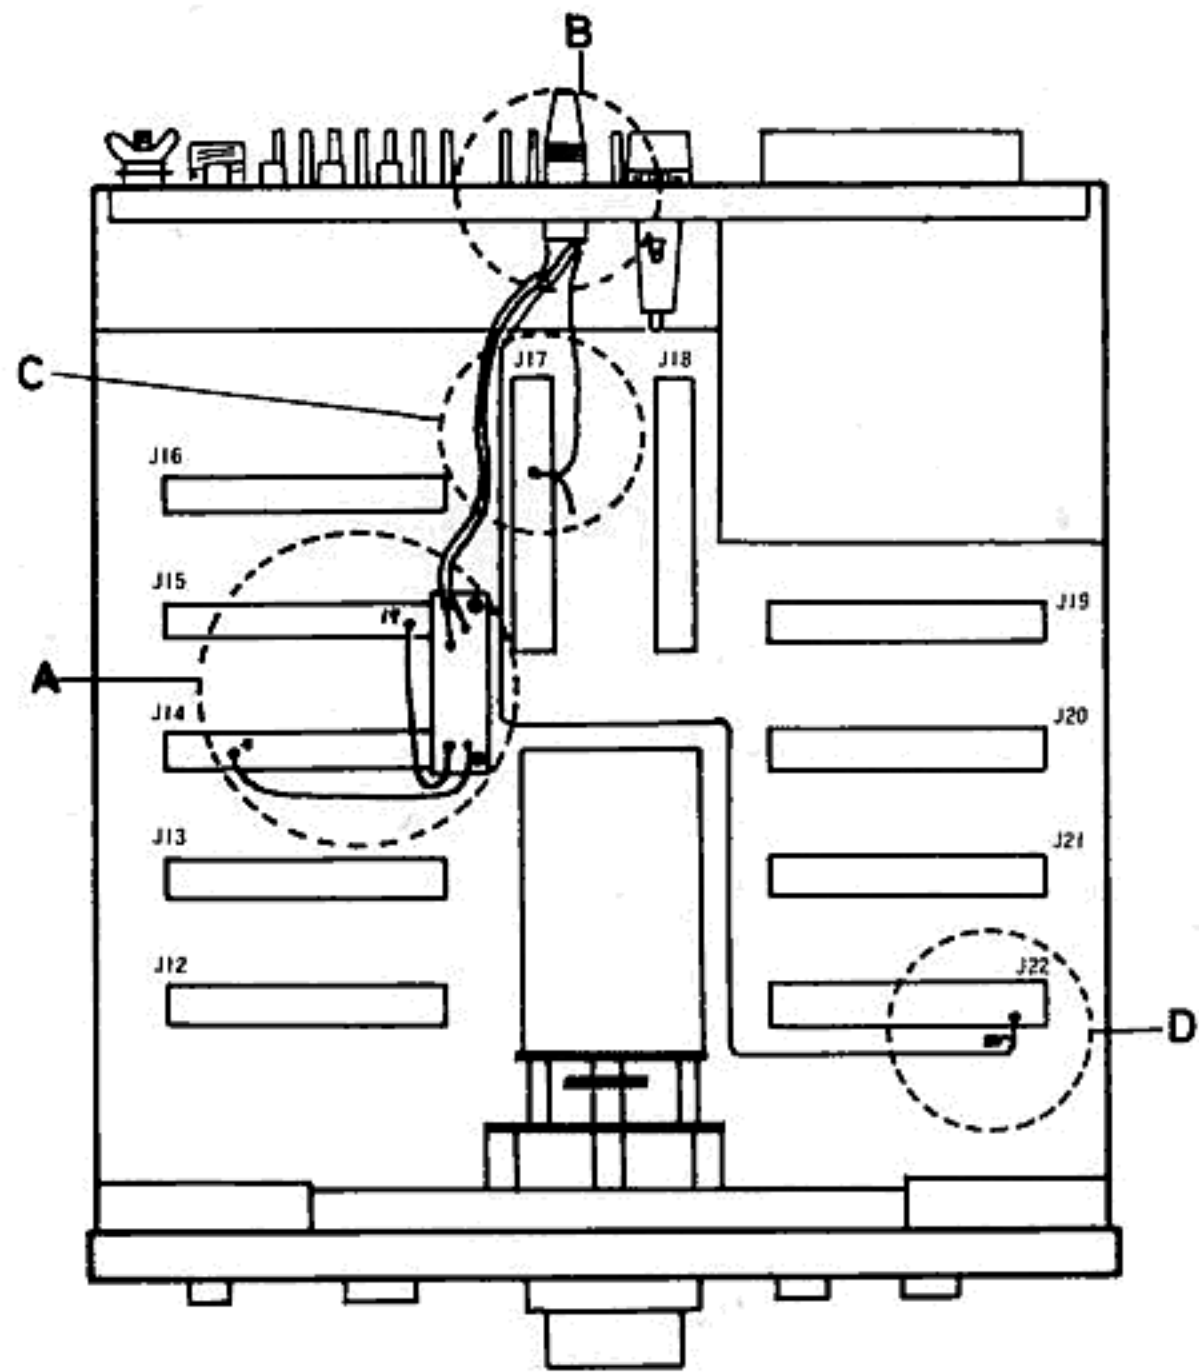
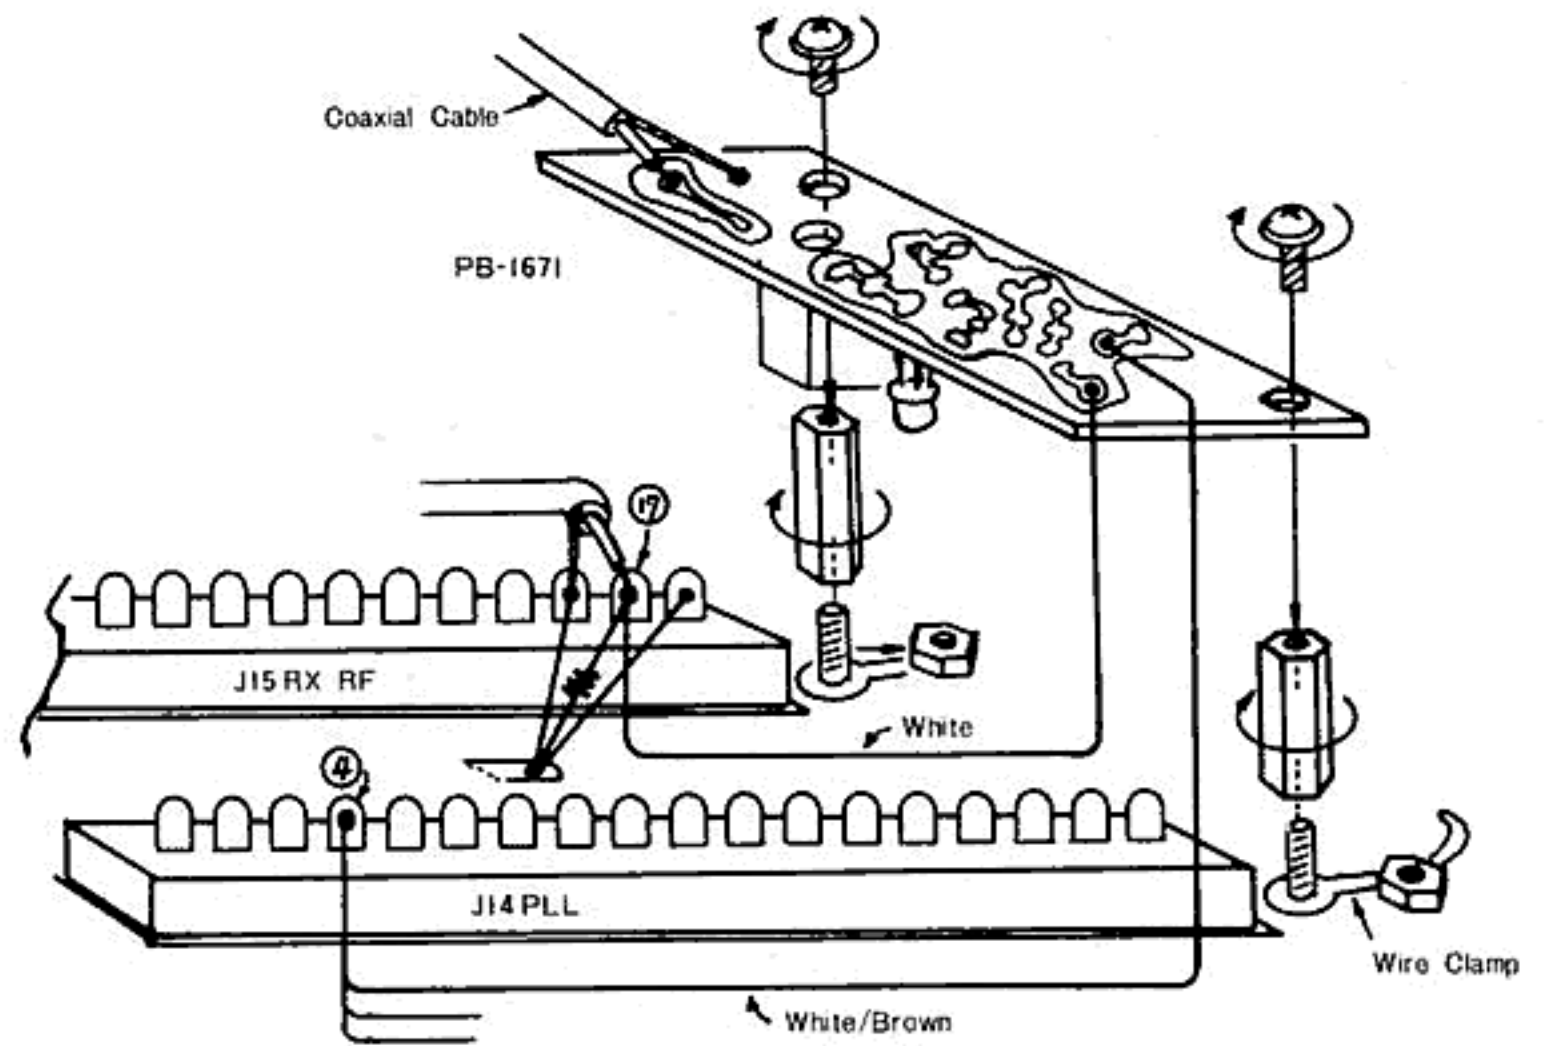

Fig. 1
Fig. 2
- (1) Remove the bottom cover from the cabinet. Figure 1 shows the location of the modification work within the dotted circles.
- (2) Remove the nuts holding J14 and J15 and replace them with the tapped spacers as illustrated. Be careful not to damage the wires when the spacers are tightened.
- (3) Solder the white wire to Pin 17 of J15 and the white /brown wire to Pin 4 of J14. Solder the other ends to the printed board PB-1671 and install the printed board as illustrated in Figure 2.